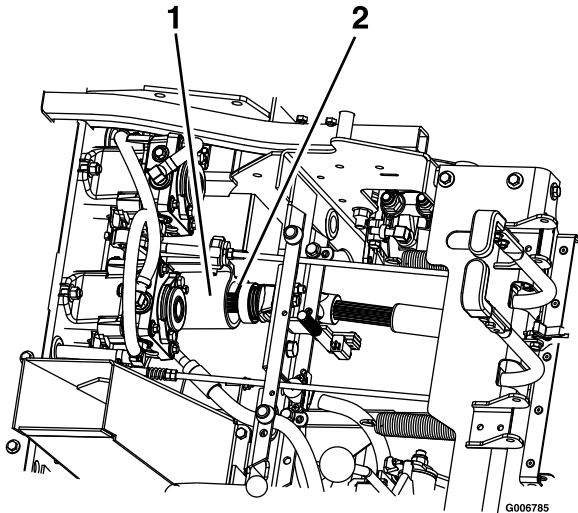

Figure 70
8. Raise the seat and disconnect the drive shaft using the quick coupler at the jackshaft (Figure 70).
3. Raise the seat and install the drive shaft onto the jackshaft (Figure 70).